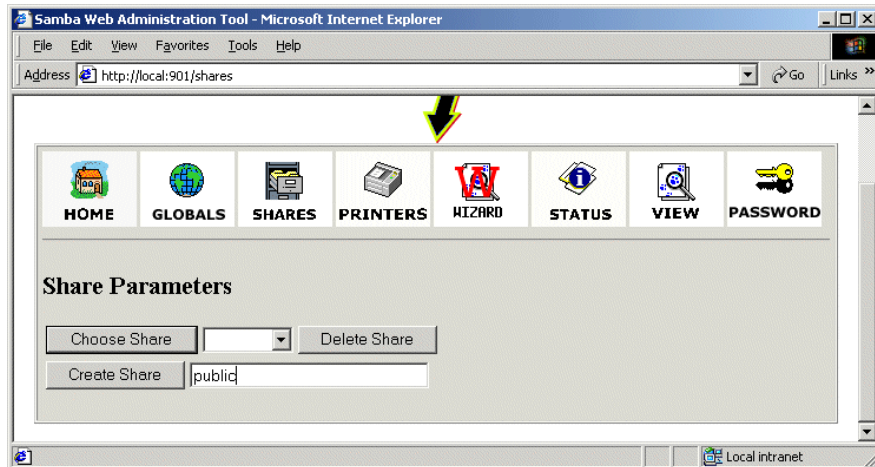

Figure 4-8 Create share
3. Type in the share name in the field next to the Create Share button, similar to Figure 4-8.